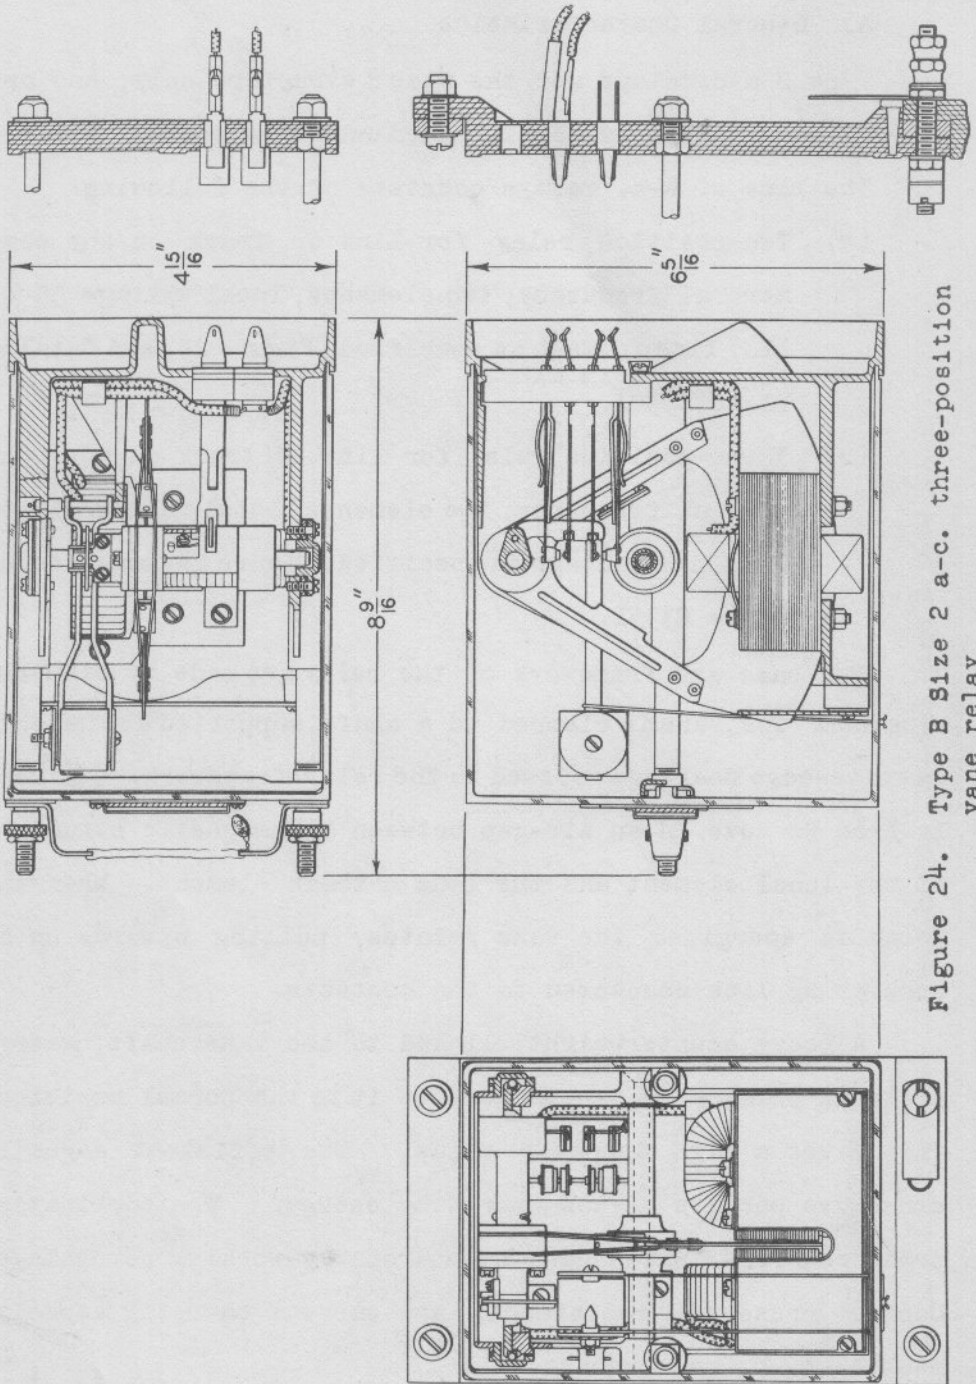

Figure 24. Type B Size 2 a-c. three-position vane relay
- (b) Three-position relay for line or track on any commercial frequency; two elements, local voltage 55 or 110, line voltage as specified, Figure 24, and Catalog Plate E3351.